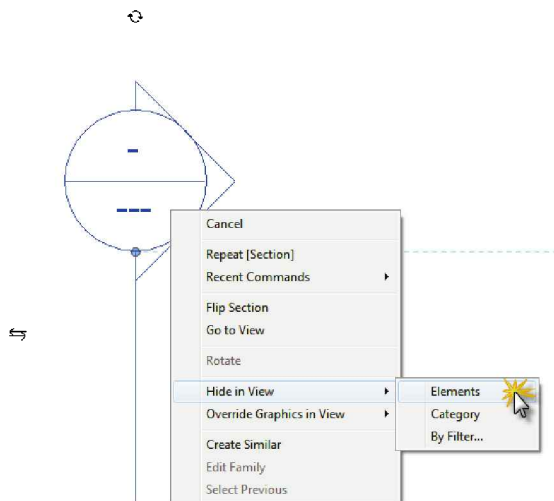

FIGURE 11-1.9 Hide annotation
18. If you see the building section tag, click on the section reference to select it and then right-click and pick **Hide in View** → **Elements** from the pop-up menu (Figure 11-1.9).